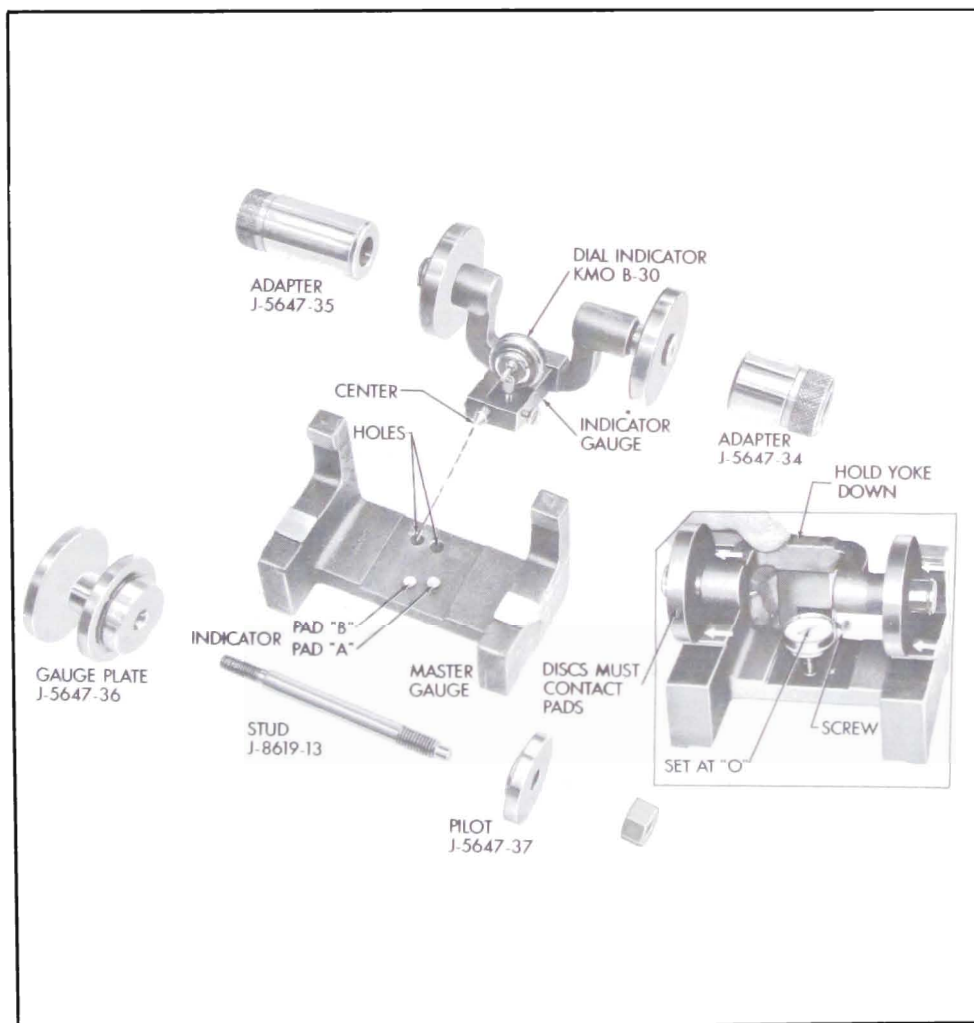

Fig. 6-65—Pinion Setting Gauge J-5647 and Adapters
Figure 6-65. It is not necessary to reassemble and install the pinion depth shim since the pinion depth setting gauge arrangement provides in effect, a nominal or zero pinion as a gauging reference.
3. Place the indicator gauge on the master gauge so that the spring-loaded center is engaged in the centering hole corresponding to the indicator pad "b". See Figure 6-65.